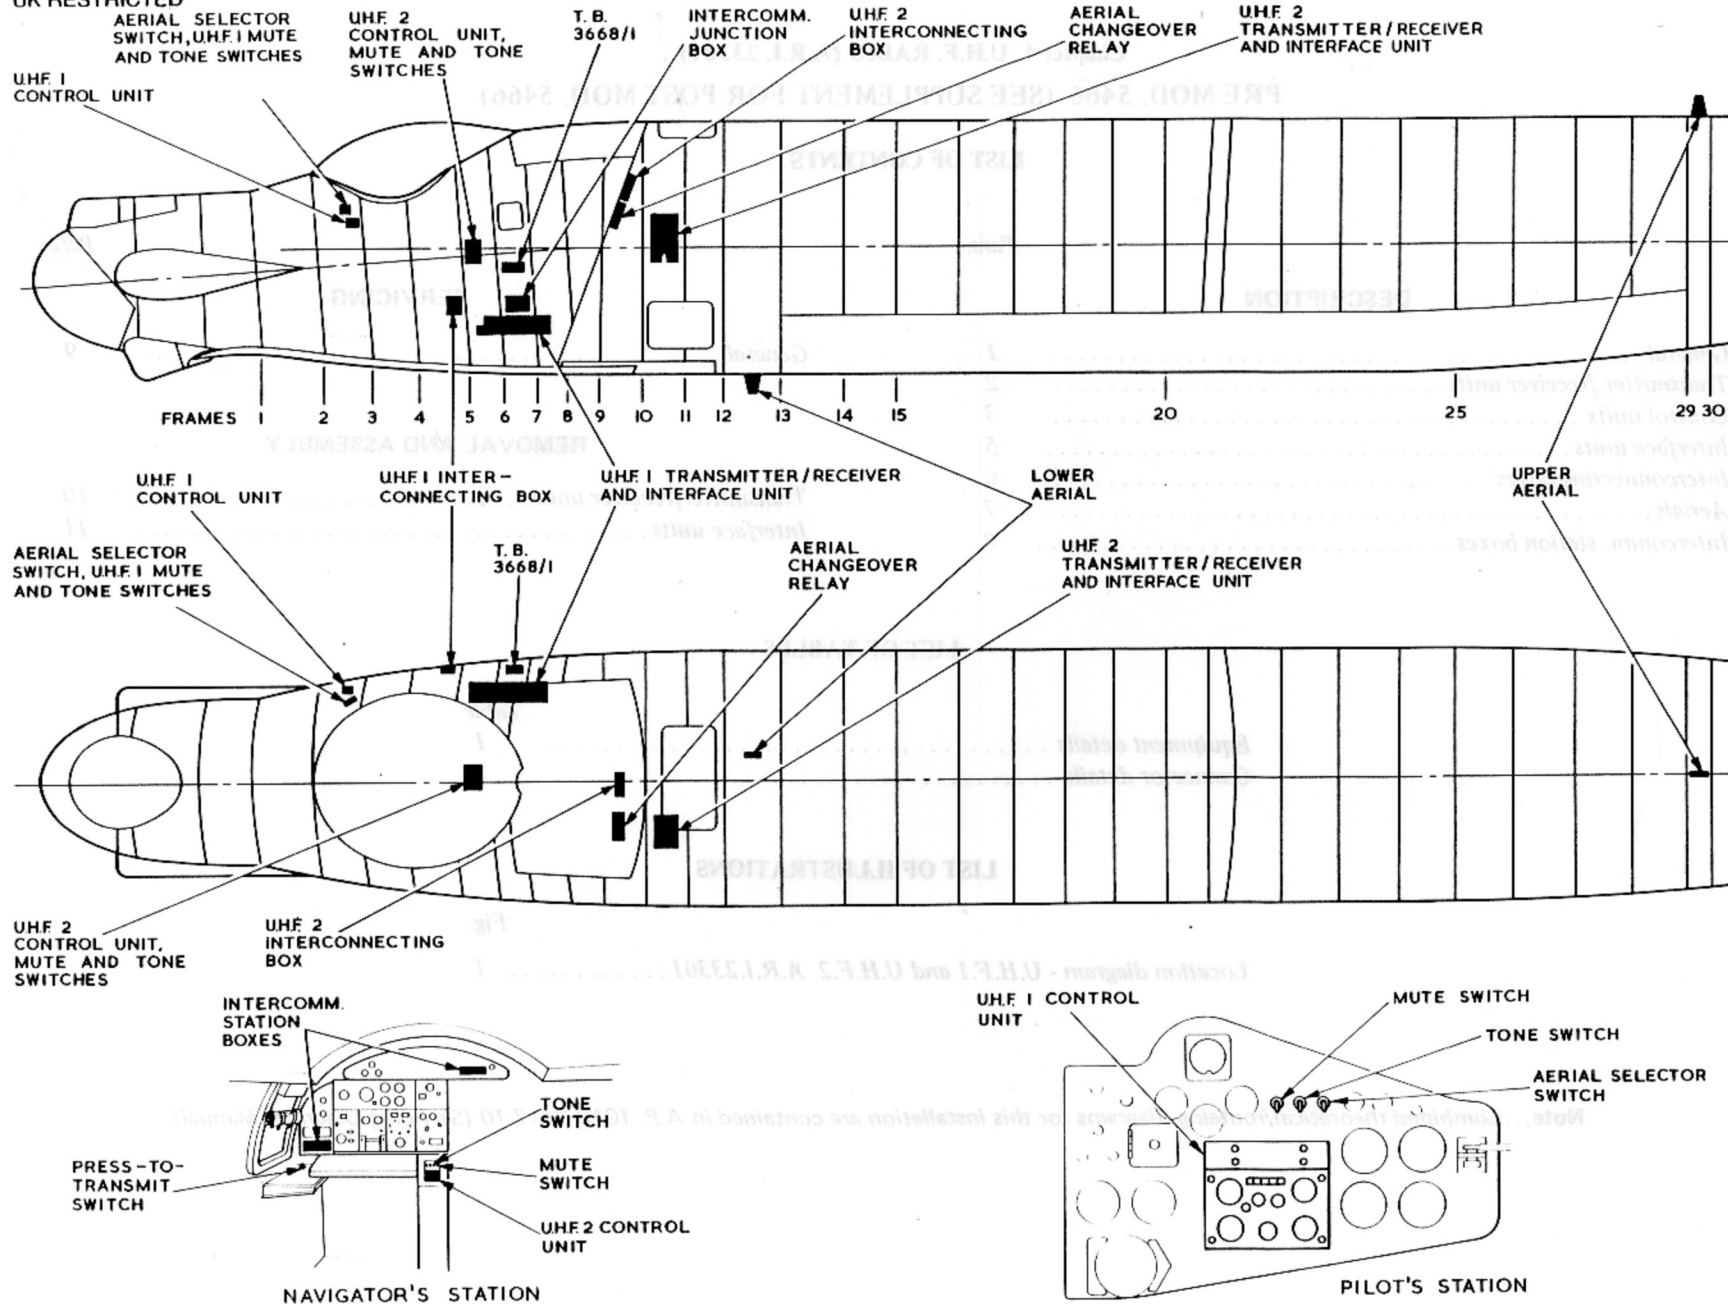

FIG. 1. LOCATION DIAGRAM - U.H.F. 1 AND U.H.F. 2 A.R.I. 23301
1. Communications in the U.H.F. range are provided by two A.R.I. 23301 installations referred to as U.H.F.1 and U.H.F.2. The locations of the main items are shown in fig.1. Connector and cable assembly details are given in Table 2.